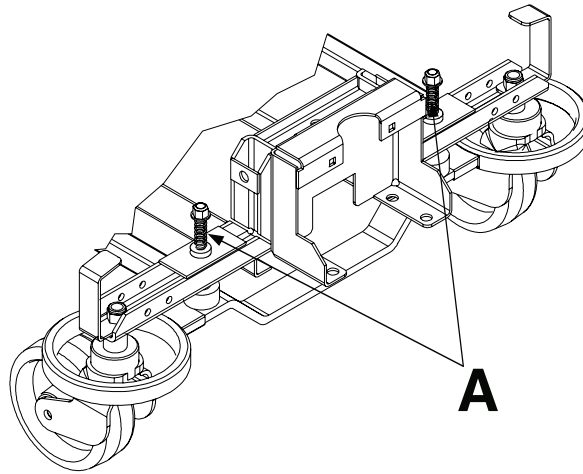

Figure 3 – Brake bar rod
1. Apply OG2 grease (M0027) to the brake bar rod surface (A) (Figure 3).